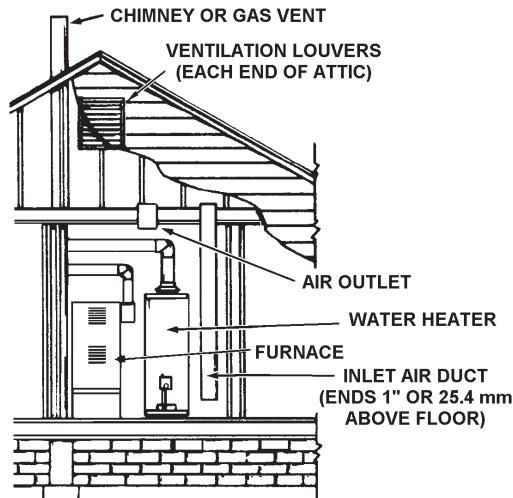

FIGURE 7.
- When communicating with the outdoors through vertical ducts, each opening shall have a minimum free area of 1 square inch per 4,000 Btu per hour ($5.5 \text{ cm}^2/\text{kW}$) of total input rating of all equipment in the enclosure, see Figure 7.